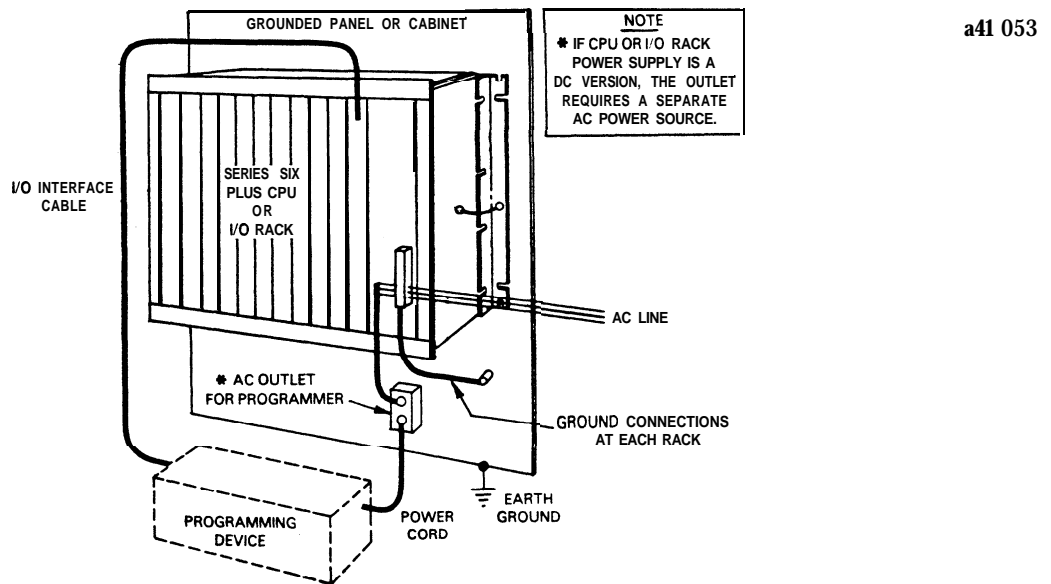

Figure 3.16 PROGRAMMING DEVICE GROUND CONNECTION
3. Programming Device Grounding - For proper operation, the programming device, (Workmaster computer, CIMSTAR I computer, or a Program Development Terminal) must have a ground connection in common with the CPU or I/O rack to which the PDT or Workmaster computer interface cable is connected. Normally, this common ground connection is provided by ensuring that the programmer's power cord is connected to the same power source (with the same ground reference point) as the CPU or I/O rack as shown in figure 3.16.